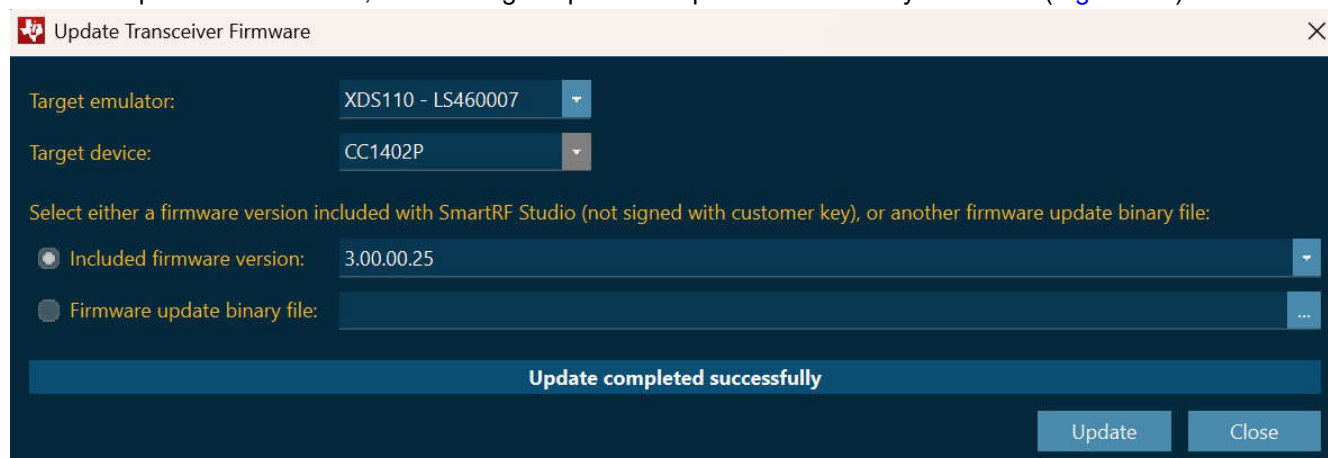

Figure 3-7. Update Completed Successfully
7. If the update is successful, the message "Update completed successfully" is shown (Figure 3-7).